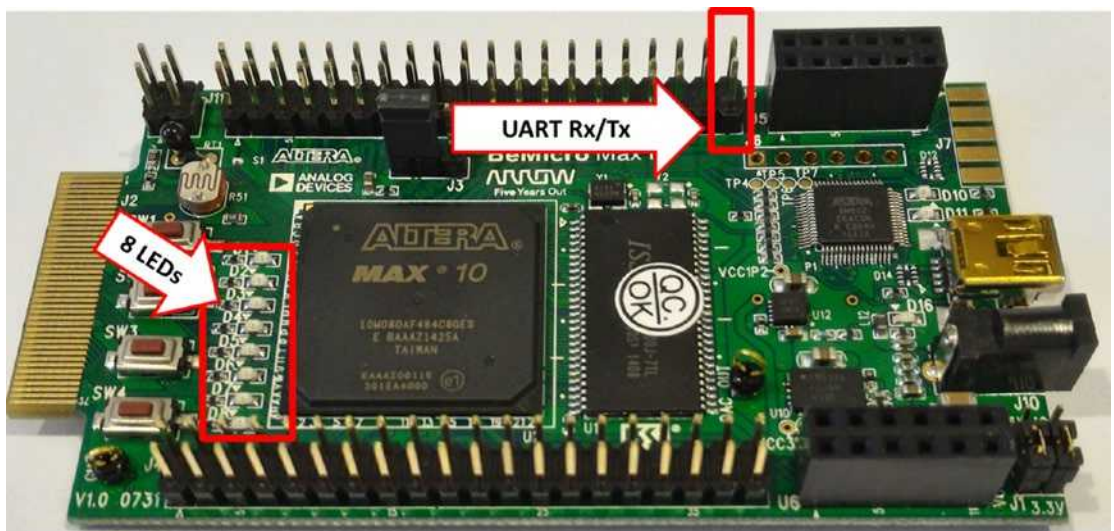

Figure 13-1. BeMicro MAX10 board—UART interface pin and LEDs
You would like to build a system with communication (bus) capability. The communication can be between modules, integrated circuit (IC), or even a PC. What kind of kind of bus or communication system do you think an IC can use to send data to a PC? The answer is UART (universal asynchronous receiver/transmitter)! UART is one of the most common and timeless interfaces because it's easy to design the hardware and the software for this communication interface. Figure 13-1 shows the BeMicro MAX10 board with user-defined UART interfaces—two pins: one transmit (Tx) and one receive (Rx). We will show you how to connect it to your PC in the design example.